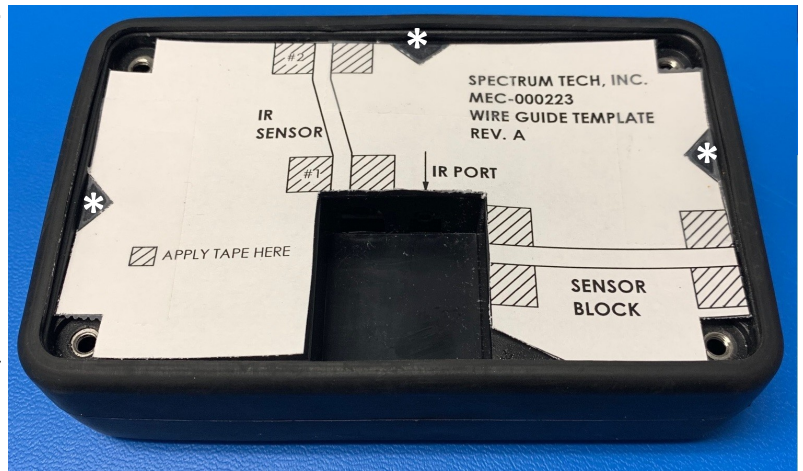

Figure 2
2. Tape template to housing using the cutout areas around the border (marked with asterisk in fig. 2).